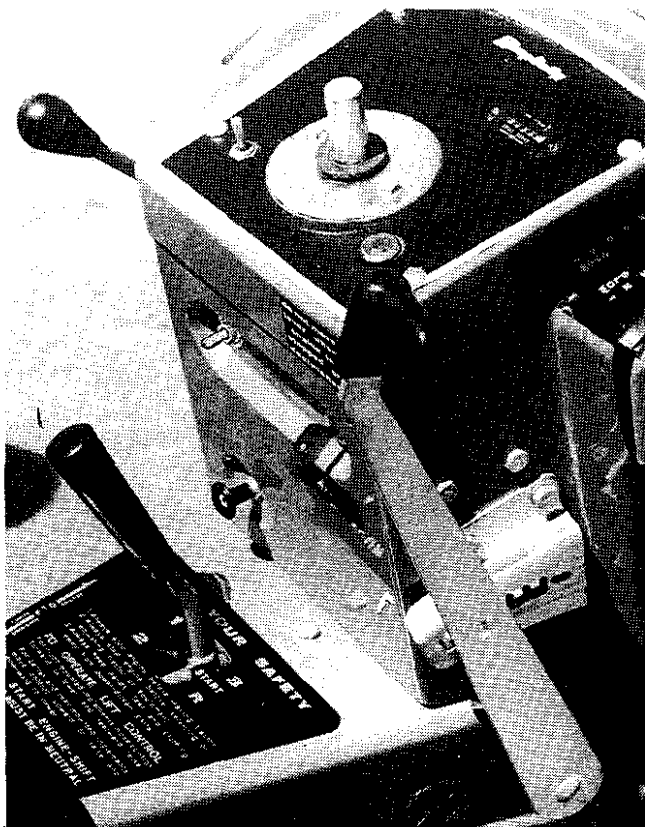

FIGURE 17
4. Move the engine speed control lever forward about $\frac{1}{3}$ of the way. (See figure 17).
5. Pull the choke lever out all the way. (See figure 17).
6. Turn the ignition key clockwise (See figure 17) and hold until the engine starts, then release. If the engine does not crank, move the shift lever or hydrostatic control lever forward and back to insure the **safety** switch is making contact. When the engine starts, push the choke in all the way. If the engine does not start after about half a minute, it may be flooded. Push the choke in and crank to clear the engine of excess **gasoline**.